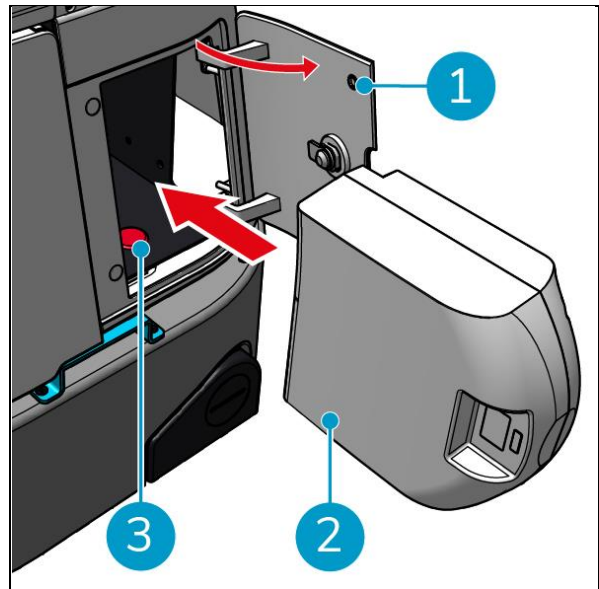

Figure 11
Before removing the battery, make sure to turn off the co-botic 45 via the power button inside the battery compartment (see Figure 11, pos. 3). Removing the battery without turning off the co-botic 45 may result in the battery 'sparking' and causing problems with the connectors.
1. Open the battery compartment lid using the supplied key (Figure 11, pos. 1).
2. Push the battery in the battery slot (Figure 11, pos. 2). A click indicates that the battery is locked.
1. Press the power button in front of the battery (Figure 11, pos. 3), the co-botic 45 will now power on.